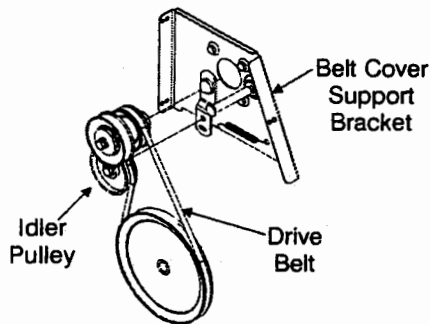

FIGURE 19
- a. Pull idler pulley away from belt. See Figure 19.